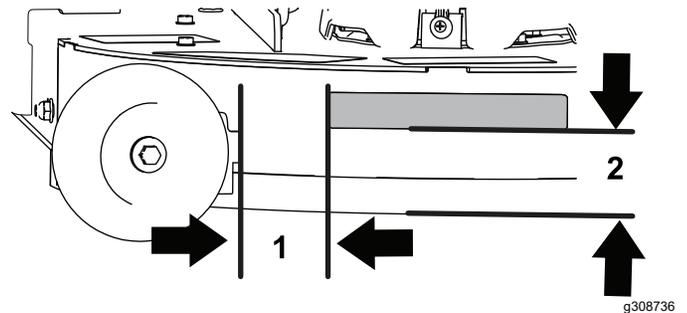

Figure 3
1. Install the decal to the mower deck in the location shown in Figure 3.